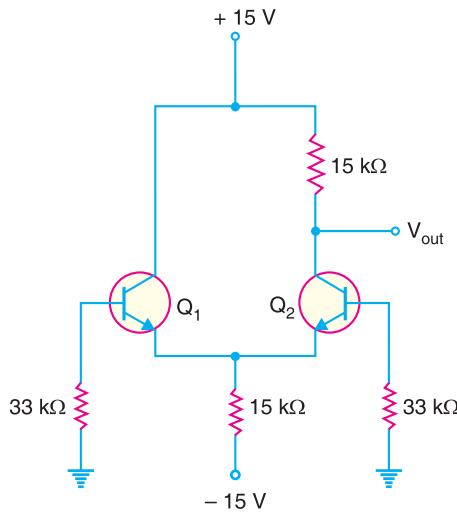

Fig. 25.17
**Example 25.7.** In Fig. 25.17, the transistors are identical with  $\beta_{dc} = 100$ . Find the output voltage.
**Example 25.8.** In Fig. 25.17, the transistors are identical except for  $\beta_{dc}$ . The left transistor has  $\beta_{dc} = 90$  and the right transistor has  $\beta_{dc} = 110$ . Find (i) base currents (ii) base voltages. Assume  $V_{BE} = 0 \text{ V}$ .